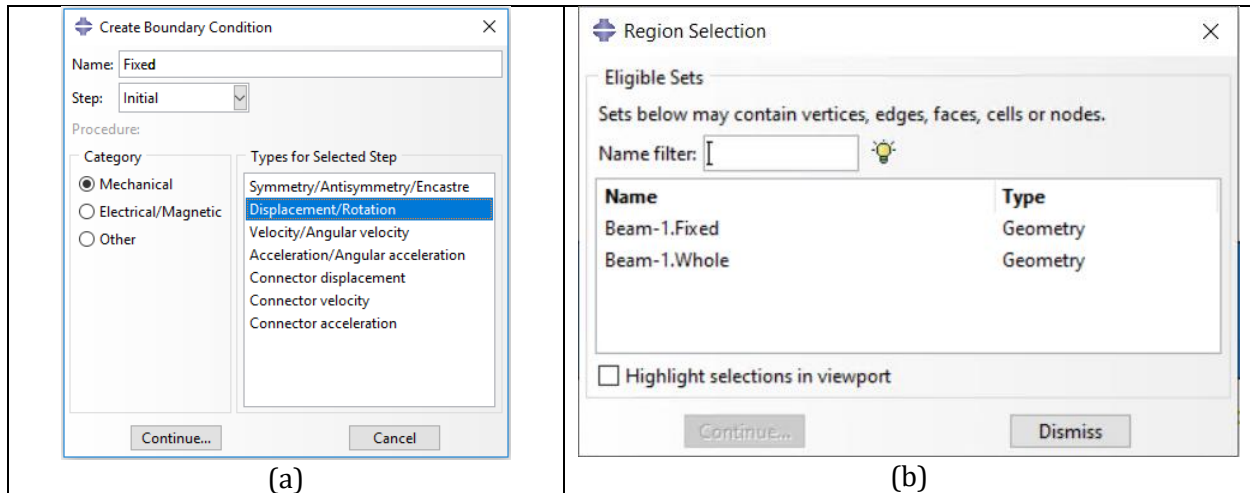

Figure 2-17 – (a) The Create Boundary Condition dialog box and (b) the Region Selection dialog box.
1. In the **Model Tree**, double-click BCs to create a new boundary condition in the model **BEAM**. Abaqus/CAE switches to the Load module, and the **Create Boundary Condition** dialog box appears, see Figure 2-17(a).
The **Region Selection** dialog box will appear, Figure 2-17(b). If not, click on **Sets** (Sets...) in the prompt area to access this dialog box.